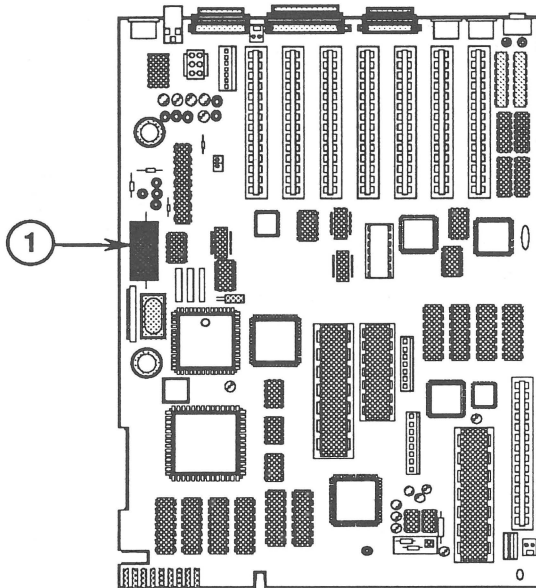
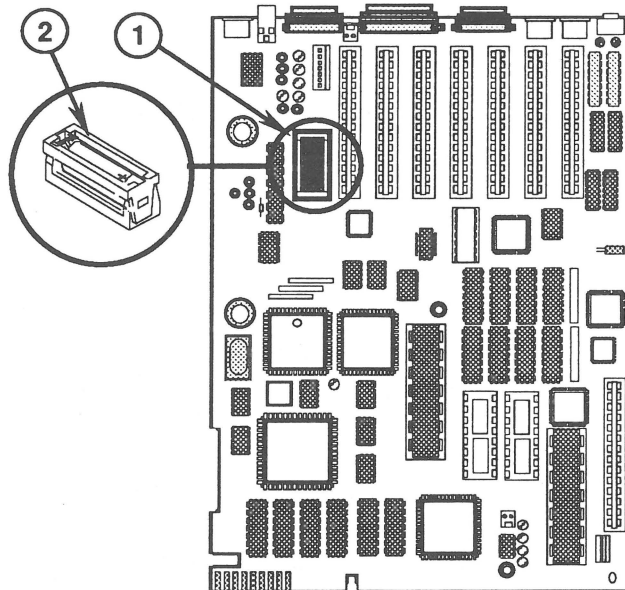

FIGURE 9
FIGURE 10
2. Locate the lithium battery. Figure 9, #1 shows the location of the battery on a Apple IIGS logic board; Figure 10, #1 shows the battery location on an Apple IIGS, 1 MB logic board.
Note: The battery in the Apple IIGS is installed in a plastic battery holder. It may be necessary to remove the battery holder cover (Figure 10, #2) and pull out the battery by hand to measure battery voltage.